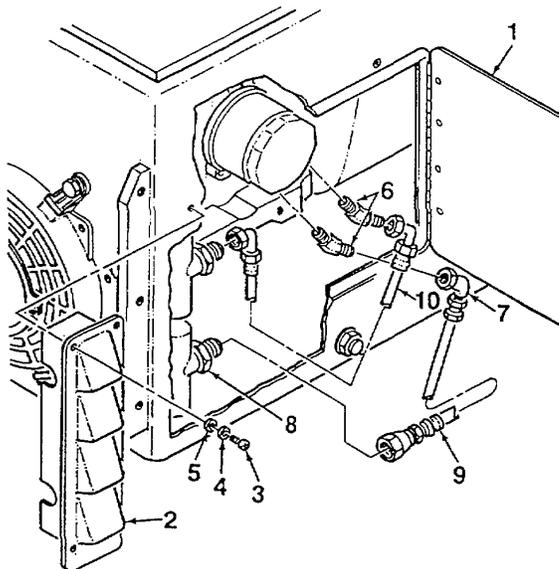

Figure 4-28. Oil Cooler Hoses
1. Open oil filter access door (1, Figure 4-28) by turning door latches.
2. Remove air outlet header (2) from APU enclosure by removing six screws (3), lockwashers (4), and washers (5).
3. Disconnect oil cooler hose assemblies (9, 10) from elbows (6, 7) and oil cooler (8). Remove elbows (6, 7) from oil filter adapter only if replacement is required.
1. Install elbows (6, 7, Figure 4-28). See figure for correct orientation.
2. Connect oil cooler hose assemblies (9, 10) to elbows (6, 7) and oil cooler (8).
4. Install air outlet header (2) onto APU enclosure using six screws (3), lockwashers (4), and washers (5).
5. Close oil filter access door (1) and lock door latches.